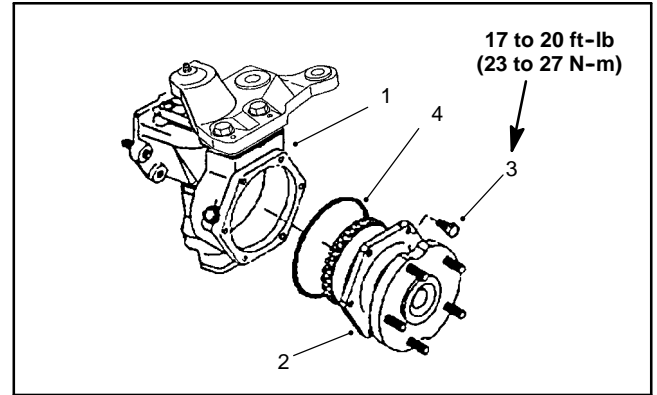

Figure 29
1. Remove the axle cover mounting screws. Remove the axle cover from the axle case as an assembly (Fig. 29).